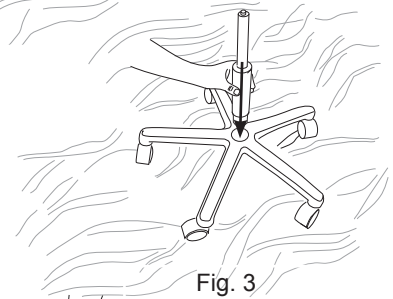

Fig. 3
3. Insert wide end of Cylinder into hole on Caster Base (figure 3).